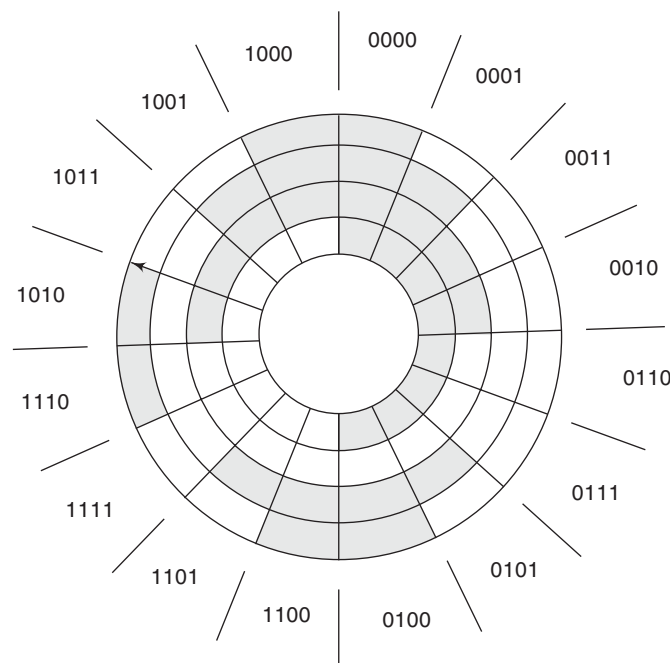

Fig. 11.28 Gray Code Wheel.
The difference between the Gray code and the regular binary code is illustrated in Table 11.7. *The Gray code varies by only 1 bit from one entry to the next and from the last entry (15) back to the beginning (0).* Now, if each Gray code represents a different position on a rotating wheel, as the wheel turns, the code read from one position to the next will vary by only 1 bit (see Fig. 11.28).